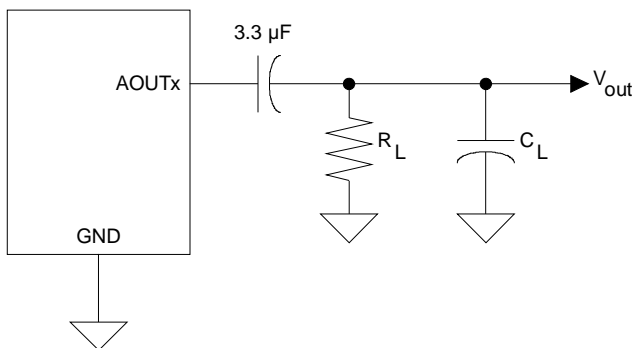

Figure 1. Equivalent Analog Output Load
- See Figures 1 and 2 on page 19. R_L and C_L reflect the minimum resistance and maximum capacitance allowed in order to maintain stability in the internal op-amp. C_L affects the dominant pole of the internal output amp; increasing C_L beyond 100 pF can cause the internal op-amp to become unstable.